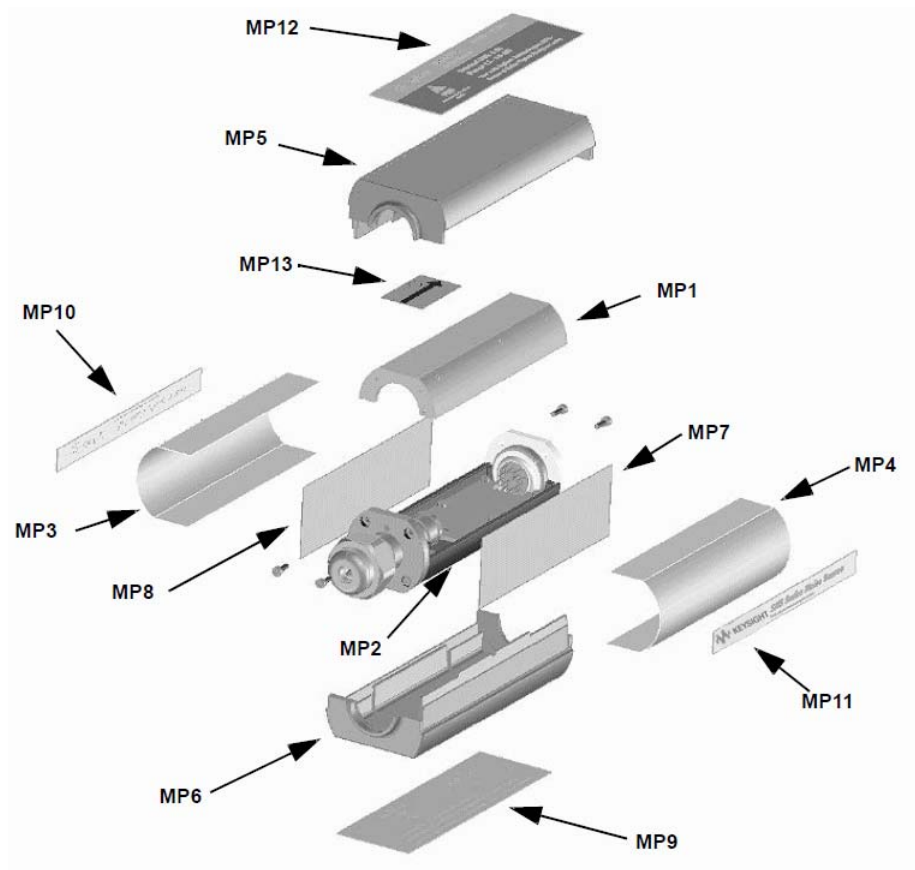

Figure 4-12 Illustrated parts breakdown
Table 4-1, Table 4-2, and Table 4-3 list all replaceable parts available for the Keysight N4000/1/2A SNS series smart noise source. Figure 4-12 shows a typical SNS series smart noise source being prepared for parts replacement at the assembly level by removing the four end screws (two at each end).
- 1 Replace the magnetic shields and plastic shells as shown in **Figure 4-12** on page 44.